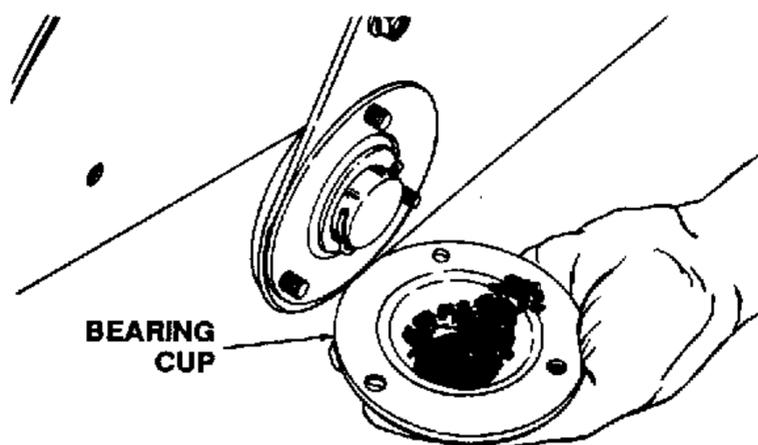

Figure 7-67. Lubricating Right Bearing Cup.
4. At least once a season, remove the bearing cup on the right hand side of the tiller housing. See Figure 7-67. Clean and refill the cup with 2 ounces of plastilube type "O" grease (part number 737-0133).